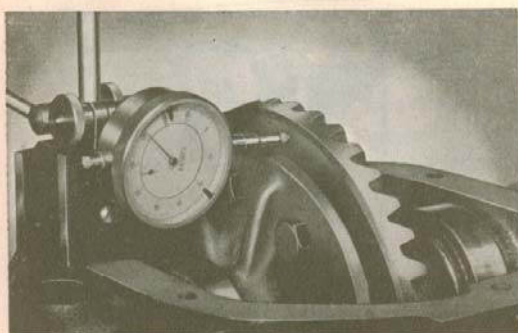

Fig. 5-19. Measuring the differential end play
1. Press on the differential case bearings (1) without shims. Use tool SVO 4112, see Fig. 5-18. Place the differential case with the ring gear and roller bearings in the housing. Measure the end play. The end play can be measured in two ways, either with a dial indicator or a feeler gauge. Whichever method is used, measurement must be carried out with a great deal of accuracy if good results are to be obtained. If a dial indicator is used, it is placed against the reverse side of the ring gear, see Fig. 5-19. The differential (remember this also includes the bearing outer races) is slid first one way and then the dial indicator is set to zero. Then the differential is slid the other way and the end play